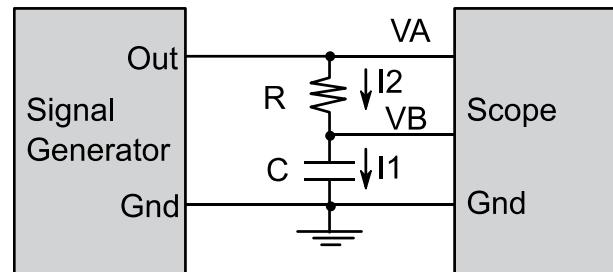

Figure 2. Resistance-capacitor circuit.
You will use the circuit shown in Figure 2 to study the behavior of capacitors. As mentioned earlier, we will study the circuit in the AC, or time-varying mode. You will use a signal generator to create an AC signal on VA, and use an oscilloscope to measure the AC signal across VA-VB and on VB. It is best if the shape of the AC signal is sinusoidal, but we could perform the lab with other waveform shapes, such as square wave.
- The complex impedance model of a capacitor ( $Z=1/(j2\pi fC)$ ). Notice that  $X = |Z|$ . The total impedance in Figure 2 is  $R+Z$ . The gain of the circuit ( $VB/VA$ ) can be calculated as  $Z/(R+Z)$ . Calculate the gain of the circuit at its cutoff frequency.